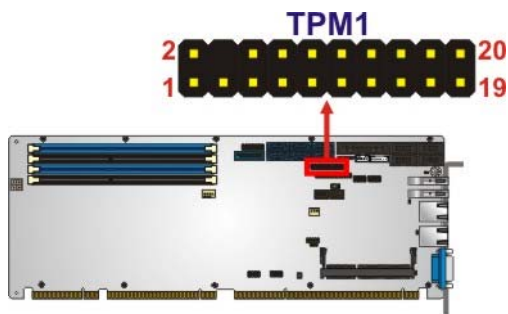

Figure 3-25: TPM Connector Location
- CN Location:** See Figure 3-25